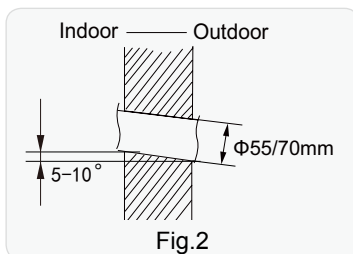

Fig.2
(2) Open a piping hole with the diameter of $\Phi 55\text{mm}$ or $\Phi 70\text{mm}$ on the selected outlet pipe position. In order to drain smoothly, slant the piping hole on the wall slightly downward to the outdoor side with the gradient of $5\text{-}10^\circ$. (As show in Fig.2)